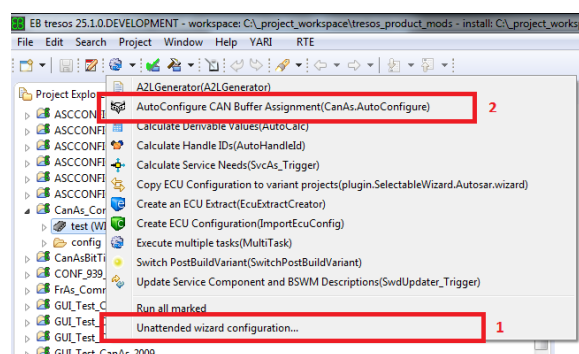

Figure 4.10. Starting the Unattended Wizard for the automatic CAN Buffer assignment.
4. Select the menu item **Autoconfigure CAN Buffer Assignment(CanAs.AutoConfigure)** as depicted in Figure 4.10, “Starting the Unattended Wizard for the automatic CAN Buffer assignment.” if you want to launch the automatic CAN Buffer assignment for the selected project.